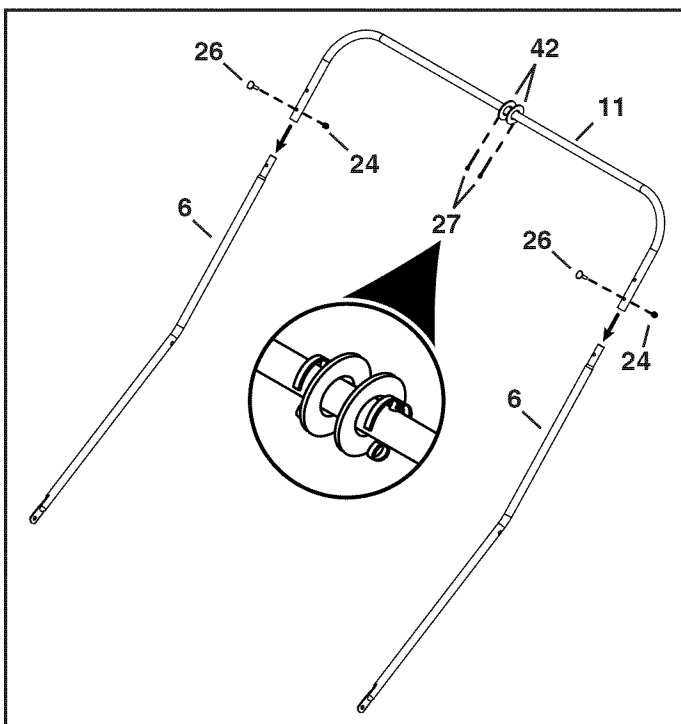

FIGURE 10
**STEP 10: (SEE FIGURE 10)**
- Place two washers (42) between the middle holes in a rear hopper tube (11). Install two cotter pins (27) into the holes, spreading the ends around the tube.
- Assemble the rear hopper tube (11) to the two upper hopper tubes (6) using two 1/4" x 1" curved head bolts (26) and 1/4" nylock nuts (24). The bolt heads should face up as shown in figure 10.